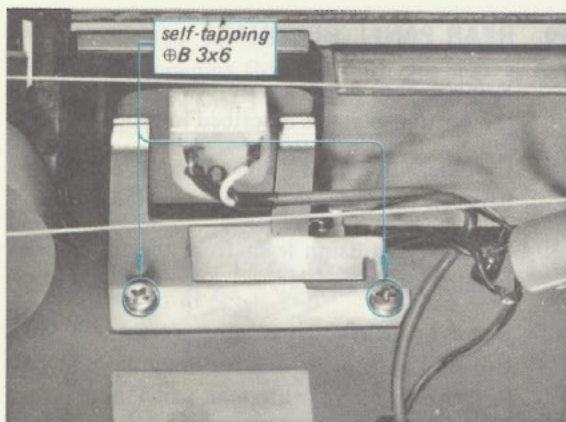

Fig. 2-12. Meter holder removal
1. Remove the two self-tapping screws ($\oplus B 3 \times 6$) securing the meter holder to the chassis as shown in Fig. 2-12.
3. Remove the two self-tapping screws ($\oplus B 3 \times 6$) securing the meter holder to the chassis as shown in Fig. 2-12.